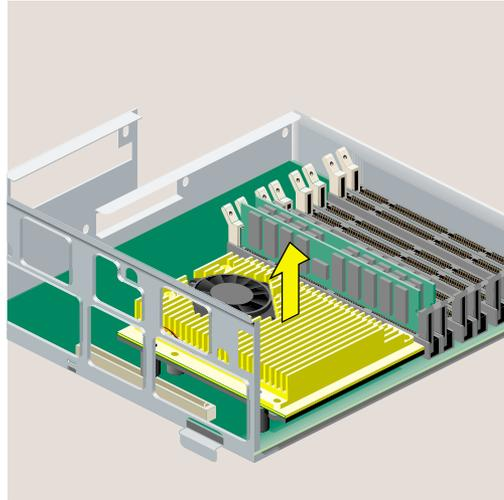

Figure 5-14 Removing the R10000 CPU Module
8. Grasp the CPU module on both sides and gently rock it out (Figure 5-14). Do not exaggerate the rocking motion, or you will bend the pins. Set the CPU module aside.